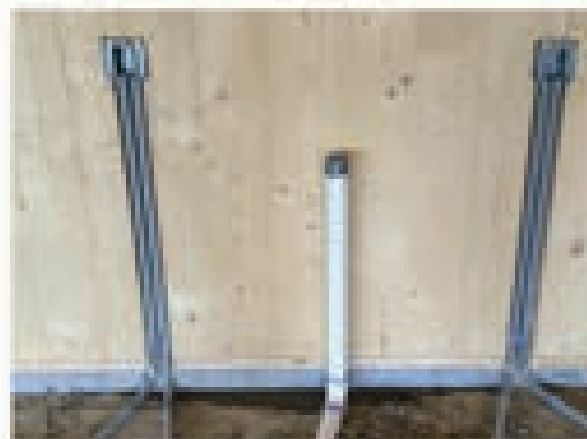

Figure 1 - Credit: Charles Judd
- Rout and bore the panels to take the electrical conduit, plumbing pipes and mechanical chases. This can be done on-site with traditional carpentry tools or in the factory using CNC technology. Structural effects related to panel cross-section reduction should be taken into account. (See Figure 1.)